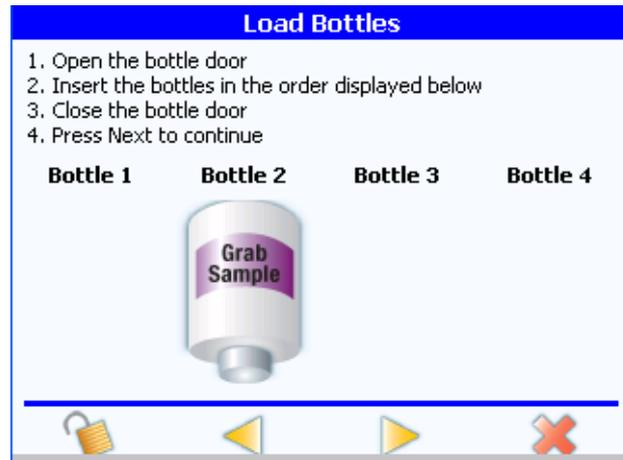

Figure 6-20 Load bottles dialog box, grab sample
- 4) Install the grab sample bottle following the instructions as shown in the load bottles dialog box and ensuring that you place the grab sample bottle in the correct position. See Figure 6-20. From left: